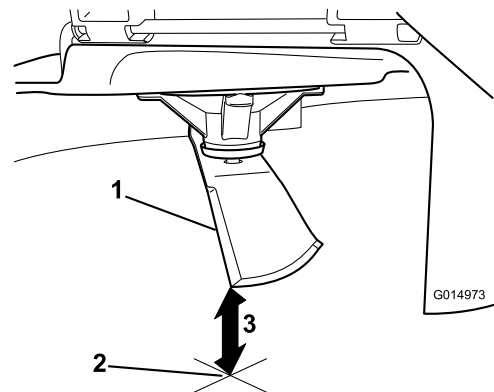

Figure 106
5. Measure from the tip of the blade to the flat surface (Figure 106).